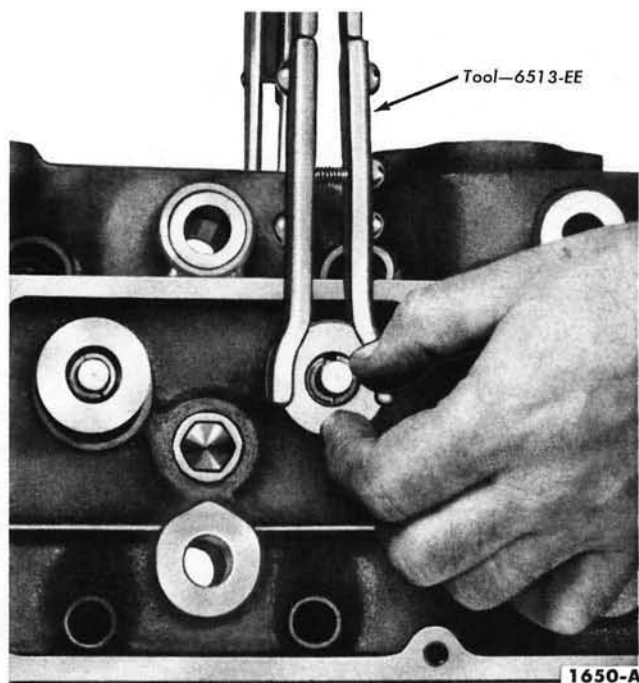

FIG. 22—Valve Spring Retainer Locks—Removal or Installation
1. Remove the spark plugs. Clean the deposits from the cylinder head. Compress the valve springs (Fig. 22), then remove the spring retainer locks, and release the spring.
1. Install each valve (Fig. 24) in the valve guide from which it was removed or to which it was fitted. Install a new stem seal on the valve. Position the valve spring over the valve, then install the spring retainer and sleeve. Compress the spring and install the retainer locks (Fig. 22).